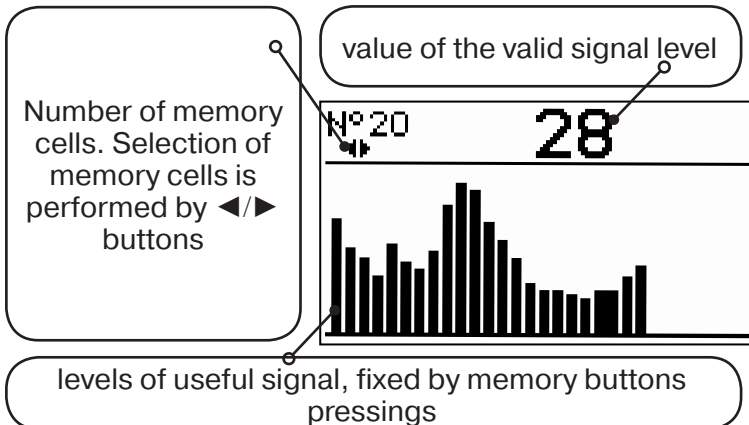

Fig. A.8
The receiver has an ability to record/view 30 saved signal levels (fig.A.8). Output signal level values are recorded every time the memory button  pos. 6.fig.2.1 is pressed in the measurement mode.